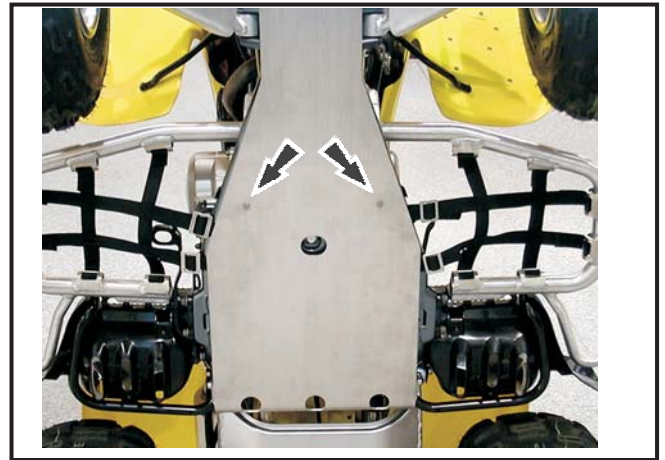

Fig. 5
6. Place skid plate on ATV. Position skid plate mounting clamps with the curved end hooked over the frame. Use supplied flat head allen screws, 6mm washers, and locknuts to install (See Fig. 5), do not tighten.